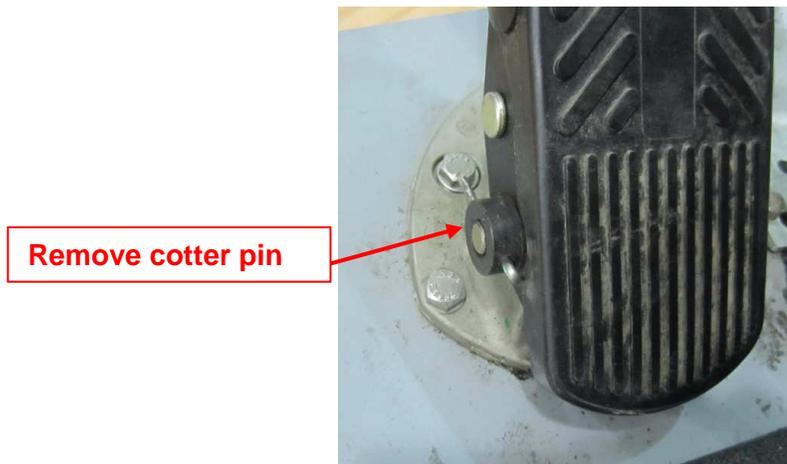

Figure 5: Remove Cotter Pin from Brake Pedal
16. Remove the cotter pin from the brake pedal, see Figure 5. Remove the brake pedal from the mount, set the hinge pin and pedal aside for re-use, discard the cotter pin.